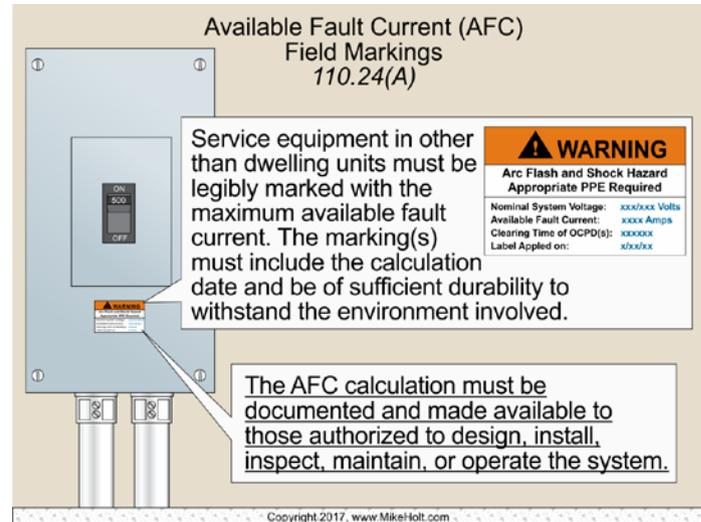

Figure 110-27
**(A) Field Marking.** Service equipment, in other than dwelling units, must be field marked with the maximum available fault current, the date the fault current calculation was performed, and be of sufficient durability to withstand the environment involved. [The available fault current calculation for the service equipment label must be documented and be available to those who are authorized to design, install, inspect, maintain, or operate the system.](#) Figure 110-27